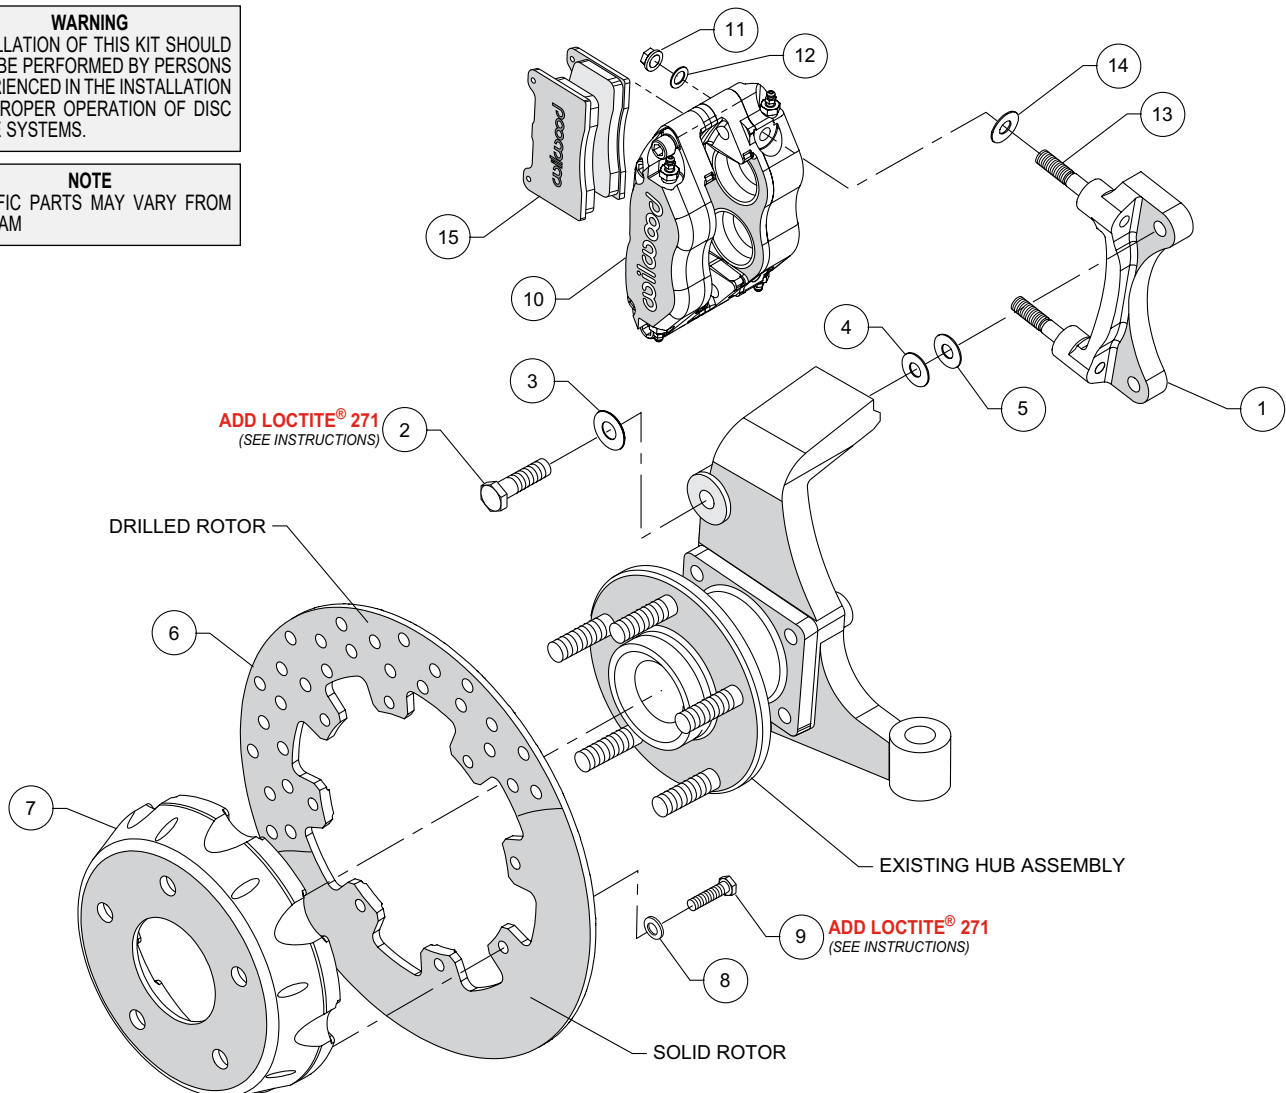
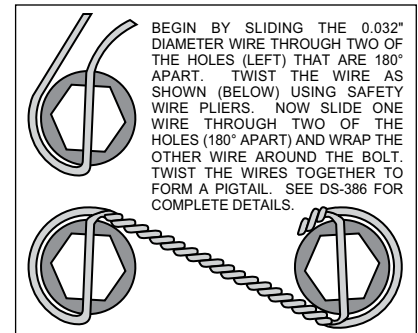

Figure 1. Typical Installation Configuration
Figure 3. Safety Wire Diagram
•The caliper mount bracket assembly (1) should be installed first with clean, dry threads on the mounting bolts. Install the bracket on the inboard side of the spindle by sliding bolt (2) through flat washer (3), and spindle ear from the outboard side of the spindle. Place two shim washers (4) between the bracket (1) and the spindle (see figure 1). The bracket must tighten squarely against the inboard side of the caliper mount bosses on the spindle body. Inspect for interference from casting irregularities, machining ridges, burrs, etc. Later, after the caliper, pad, and rotor alignment has been checked, and any necessary shims have been put in place, the mount bolts should be coated with red *Loctite*® 271 and torqued to 65 ft-lbs.
•With the notched side of the rotor (6) facing away from the hat (7), bolt the rotor (6) to the hat (7) through the backside of the rotor using washers (8) and bolts (9) provided in the configuration pictured in figure 1. Apply red *Loctite*® 271 to the bolt threads and torque to 25 ft-lb using a criss-cross pattern. For an added measure of security, the bolts may be safety wired using standard 0.032 inch diameter stainless steel safety wire as shown in Figure 3. Please refer to Wilwood's data sheet DS-386 (available at www.wilwood.com/Pdf/DataSheets/ds386.pdf) for complete safety wire installation instructions..